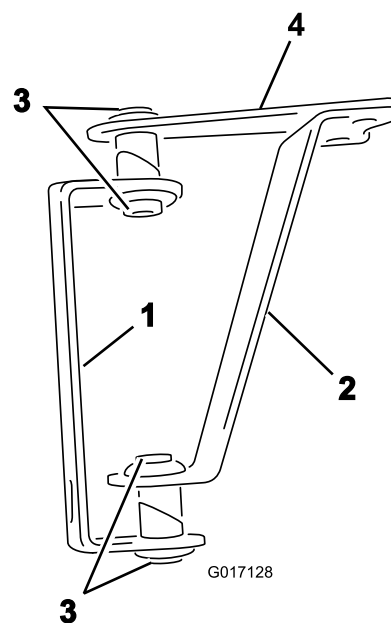
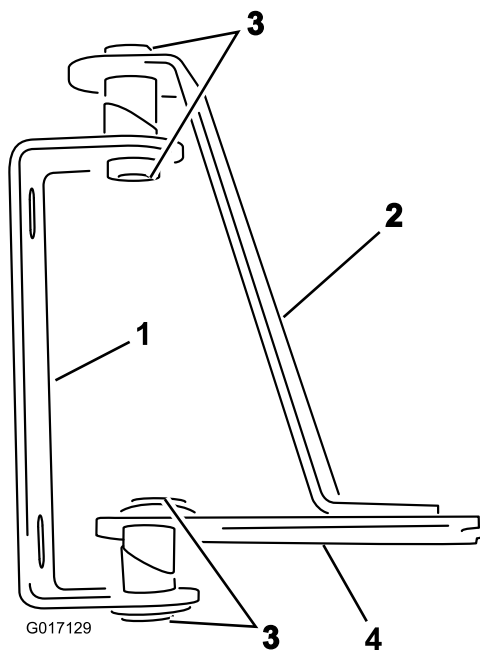

Figure 1
Figure 2
1. Lay out the hinges and straps as shown in Figure 1 (for an uncovered boom) or Figure 2 (for a covered boom).
2. Insert the bushings into the welded tube openings in the hinges and straps as shown in Figure 1 or Figure 2.